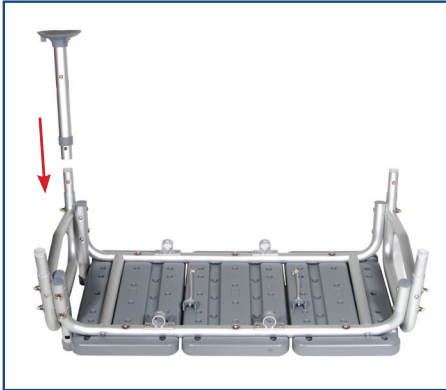

figure 1
3. Attach leg with the large suction cup by depressing the brass push pin and inserting into the receptacle. Repeat for second leg (Figure 1).